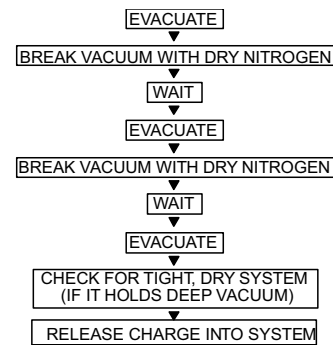

Fig. 40 —Triple Evacuation Method
The triple evacuation method should be used when vacuum pump is not capable of pumping down to 500 microns and system does not contain any liquid water. Refer to Fig. 40 and proceed as follows:
5. Repeat this procedure as indicated in Fig. 40. The system should now be free of any contaminants and water vapor.